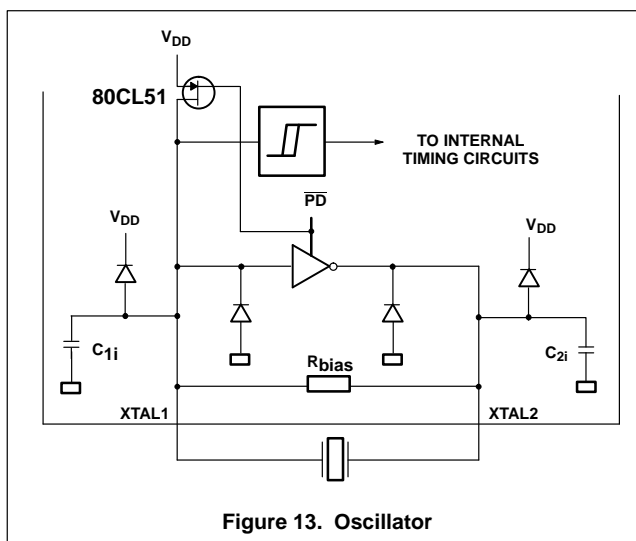
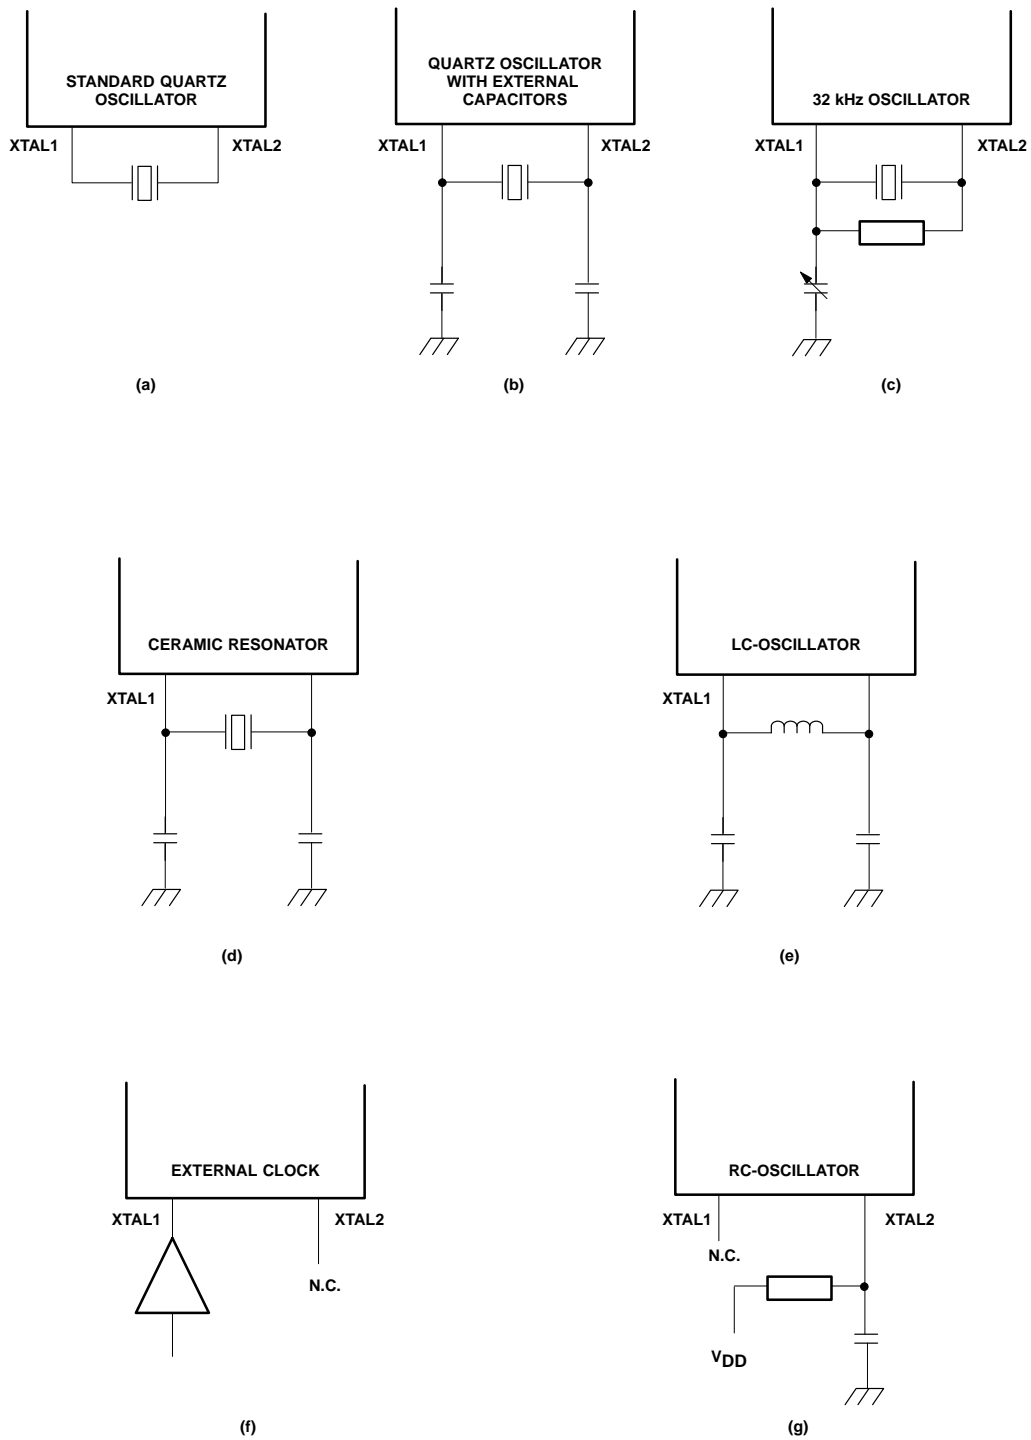

Figure 13. Oscillator
Figure 14. Alternative Oscillator Configurations
The on-chip circuitry of the 80CL51 is a single-stage inverting amplifier biased by an internal feedback resistor (Figure 13). For operation as standard quartz oscillator, no external components are needed except at 32 KHz. When using external capacitors, ceramic resonators, coils and RC networks to drive the oscillator, five different configurations are supported (see Figure 14 and oscillator options).
In the Power-down mode the oscillator is stopped XTAL1 is pulled HIGH. The oscillator inverter is switched off to ensure no current will flow regardless of the voltage at XTAL1. To drive the device with an external clock source, apply the external clock signal to XTAL1, and leave XTAL2 to float, as shown in Figure 14(f). There are no requirements on the duty cycle of the external clock, since the input to the internal clocking circuitry is split using a flip-flop.
1.7.1 Oscillator options (see Figure 14)
- Osc. 1: Figure 14(c): An option for 32 kHz clock applications with external trimmer for frequency adjustment. A 4.7 MΩ bias resistor is needed for use in parallel with the crystal.
- Osc. 2: Figure 14(e): An option for low-power, low-frequency operations using LC components.
- RC: Figure 14(g): An option for an RC oscillator.